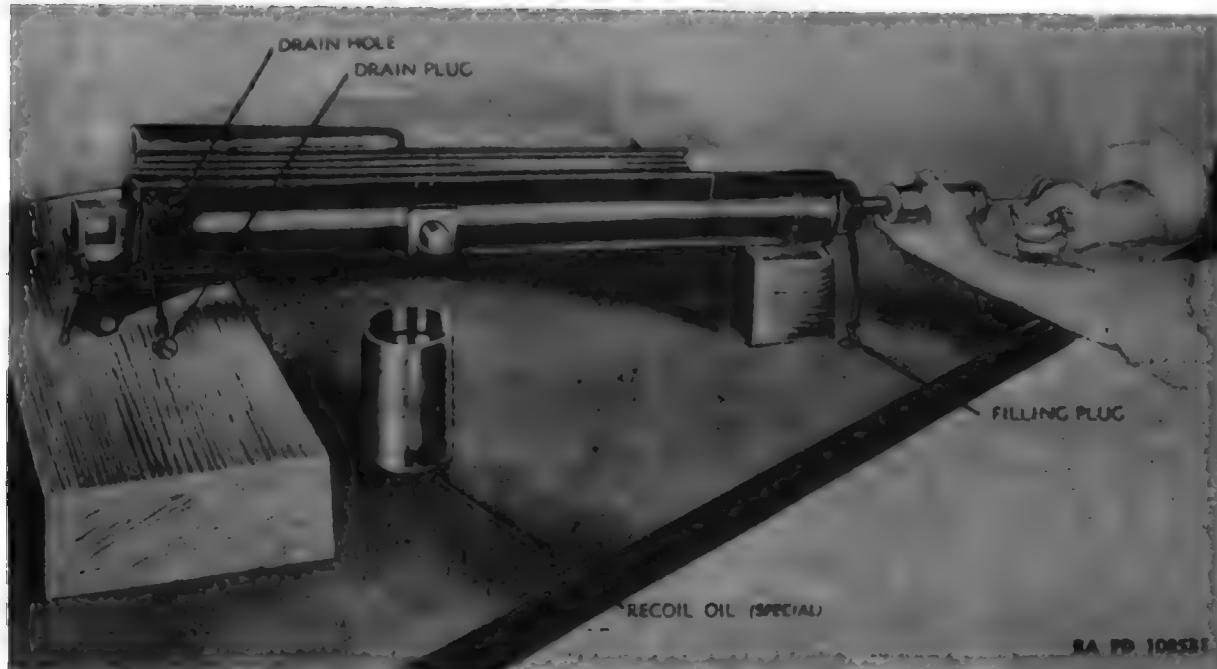

Figure 175. Filling the recoil mechanism.
- (1) Raise the rear end of the recoil mechanism of the 87-mm subcaliber gun higher than the front end by using the elevating mechanism of the 155-mm howitzer. When filling a recoil mechanism that has been removed from the 87-mm subcaliber gun, position it as shown in figure 175. Attach adapter to gun.
(2) Fill and purge the oil gun. To fill oil gun, unscrew the nozzle of the oil gun, insert the end of the gun in the fluid and pull the plunger back. Fill the gun with the recoil fluid and install the nozzle. To purge the gun, push the plunger up gently. This forces out the air.
- (3) Remove the filling plug in the front of the cradle (fig. 175).
- (4) Screw the oil gun into the adapter in the filling hole (fig. 175).
- (5) Remove the drain plug in the right side of the cradle (fig. 175).
- (6) Push the plunger of the oil gun in slowly, at the same time watching for the escape of fluid from the drain hole. When the fluid runs out free of air bubbles, the recoil mechanism is full.
- (7) Remove the oil gun. Before installing the filling and drain plugs, let about two teaspoonsfuls of fluid escape; then screw the two plugs in tightly. Permitting a little fluid to escape gives some room for expansion, which is needed to accomodate the expansion of fluid during prolonged fire and avoid interference with the complete return of gun to battery.